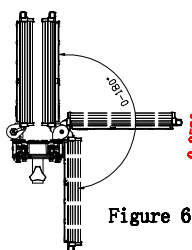
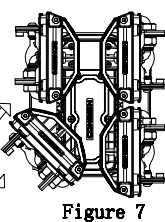

Figure 6
Figure 7
- (1) After the light is fixed on the tripod, hold the handle on the light, it can adjust the light irradiation angle 0-180° in one direction, as shown in Figure 6; The other direction can adjust the irradiation angle 0-359°, as shown in the figure 7! (In normal use, it is forbidden to illuminate each other on the luminous surface of the light board)